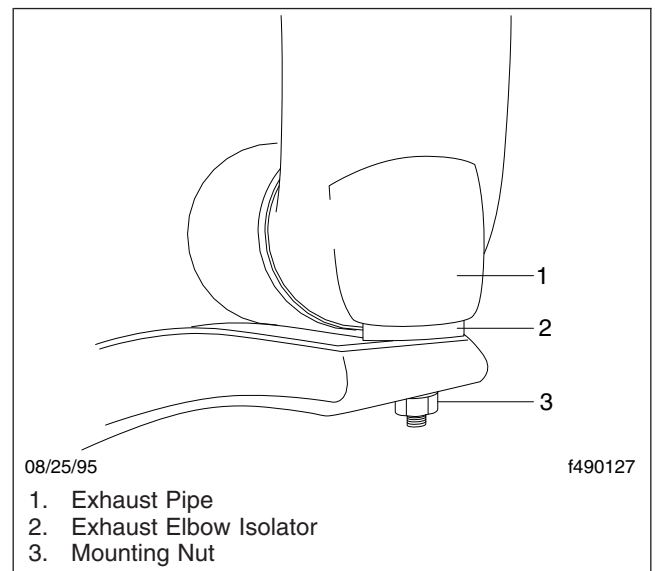

Fig. 2, Exhaust Elbow Isolator
3. Check for leakage at the V-band coupling, which attaches the exhaust pipe to the turbocharger exhaust outlet. See Fig. 2.
7. Check the isolator at the base of the exhaust stack elbow(s) (see Fig. 2), for cracking, damage, and dry rot. Replace as needed.